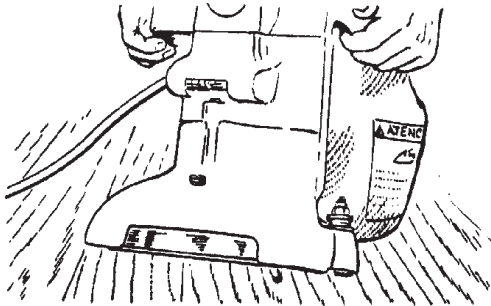

Figure 4
3. Return machine to upright position and tilt machine back on casters until it comes to rest on the exhaust bracket. Machine will be in a reclined position. Do not allow machine to rest on pad especially after use, or compression set may take place within elastomer on pad. This will create a flat spot and bounce during use. (Figure 4)
3. With the machine in the reclined position firmly grasp both handles and flip the control switch to the "ON" position. (Figure 4.)